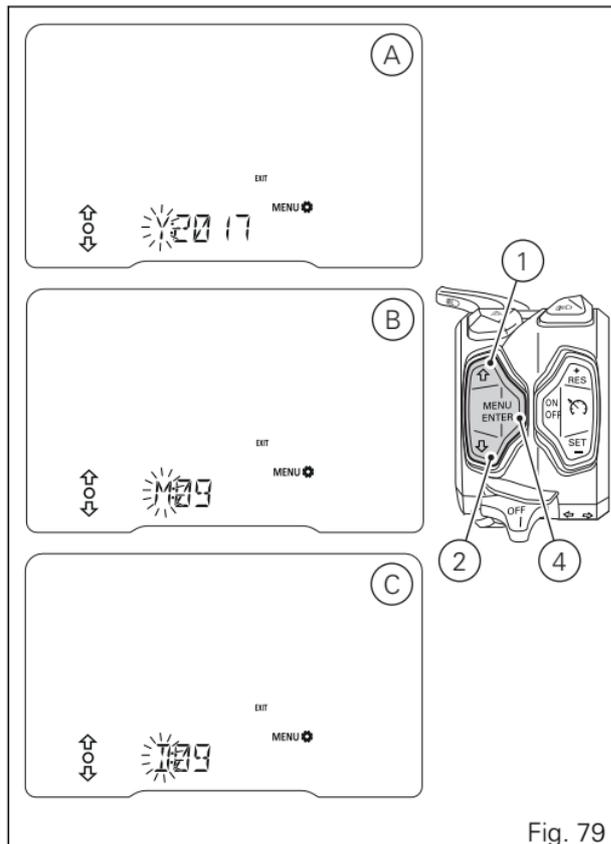

Fig. 79
Select "Y" option flashing (A, Fig. 79), by pressing button (1) or (2).
Once you reach the value to be set, press button (4) and the set year will stop flashing, while "Y" will be again flashing (A, Fig. 79).
Select "M" option flashing (B, Fig. 79), by pressing button (1) or (2).
Once you reach the value to be set, press button (4) and the set month will stop flashing, while "M" will be again flashing (B, Fig. 79).
Select "D" option flashing (C, Fig. 79), by pressing button (1) or (2).
Once you reach the value to be set, press button (4) and the set day will stop flashing, while "D" will be again flashing (C, Fig. 79).